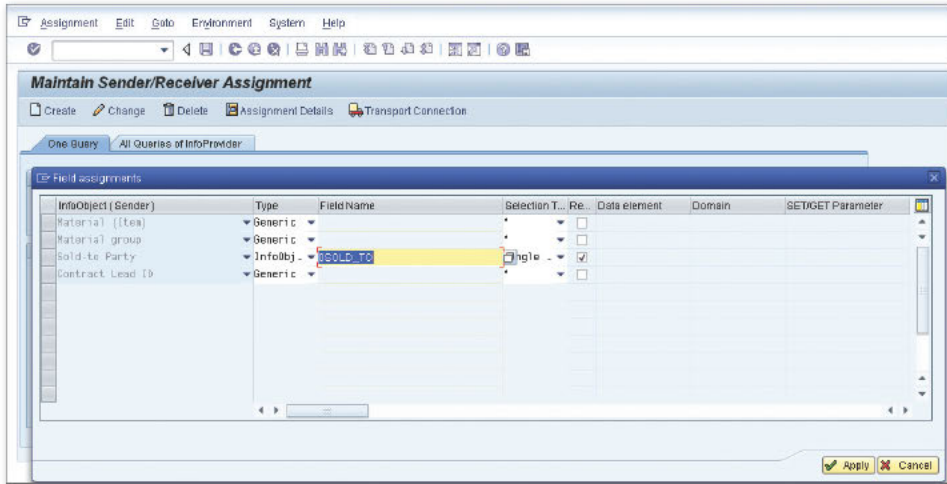

Figure 3 Set Field Assignments
4. Next, as shown in Figure 3, set the field assignments for sold-to party including TYPE (InfoObject), FIELD NAME (OSOLD_TO), and SELECTION TYPE (Single Value).